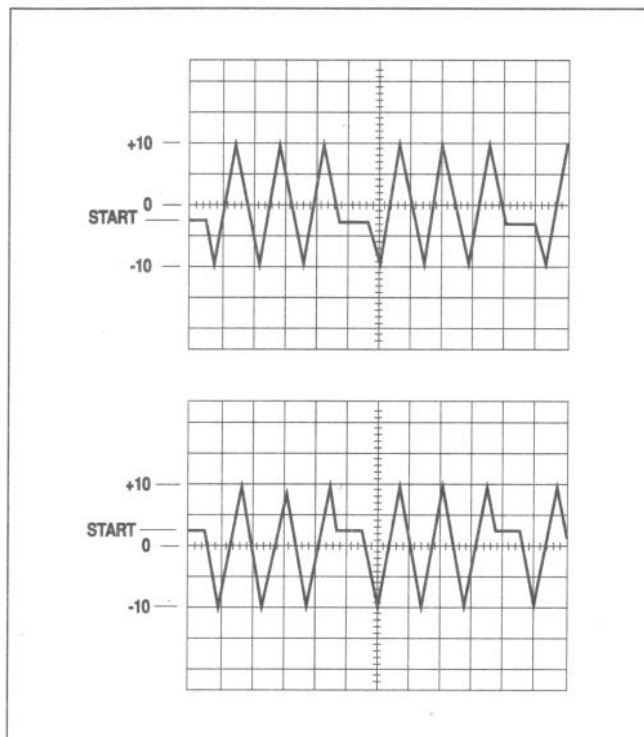

Fig. 5. Phase Control of Burst.
8. Adjust the phase, or starting point, of the burst, by rotating the TRIGGER PHASE control. Phase can be set from -80° to $+90^\circ$. The stop point will be at the same phase point as the start; see Fig. 5.